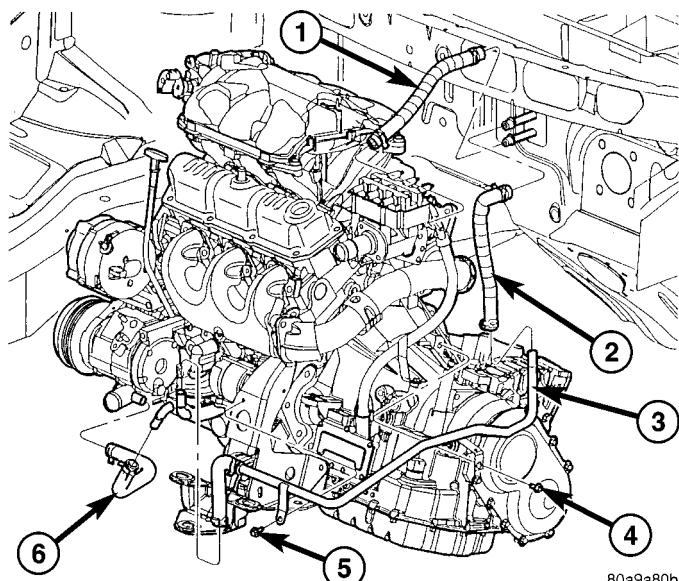
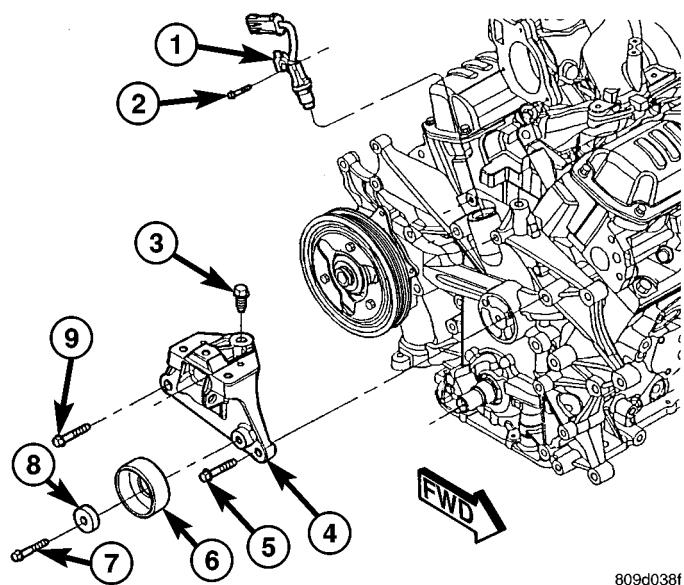

Fig. 136 HEATER HOSES 3.3/3.8L (With Engine Oil Cooler)
Fig. 137 Engine Mount Bracket
- (8) Remove accessory drive belt. (Refer to 7 - COOLING/ACCESSORY DRIVE/DRIVE BELTS - REMOVAL)
- (9) Remove A/C compressor and set aside.
- (10) Remove crankshaft vibration damper. (Refer to 9 - ENGINE/ENGINE BLOCK/VIBRATION DAMPER - REMOVAL)
- (11) Remove radiator lower hose.
- (12) Remove heater hose from timing chain cover housing (Fig. 135) or water pump inlet tube (if engine oil cooler equipped) (Fig. 136).
- (13) Remove the right side engine mount. (Refer to 9 - ENGINE/ENGINE MOUNTING/RIGHT MOUNT - REMOVAL)
- (14) Remove idler pulley from engine bracket (Fig. 137).
- (15) Remove the engine mount bracket (Fig. 137).
- (16) Remove camshaft position sensor from timing chain cover (Fig. 137).
(9) Install crankshaft vibration damper. (Refer to 9 - ENGINE/ENGINE BLOCK/VIBRATION DAMPER - INSTALLATION)
(10) Install engine mount bracket (Fig. 137) and tighten M10 to 54 N·m (40 ft. lbs.), M8 bolt to 28 N·m (21 ft. lb. lbs.).
(11) Install idler pulley on engine mount bracket (Fig. 137).
(12) Install right side engine mount. (Refer to 9 - ENGINE/ENGINE MOUNTING/RIGHT MOUNT - INSTALLATION)
(13) Install camshaft position sensor (Refer to 8 - ELECTRICAL/IGNITION CONTROL/CAMSHAFT POSITION SENSOR - INSTALLATION).
(14) Connect the heater return hose at rear of timing chain cover (Fig. 135) or at water pump inlet tube (if engine oil cooler equipped) (Fig. 136).
(15) Connect the radiator lower hose.
(16) Install A/C compressor.